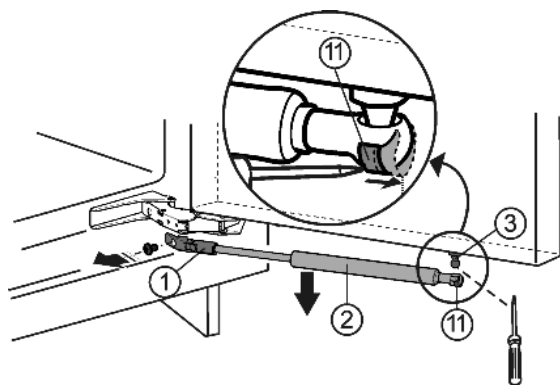

Fig. 3
- ▶ Push tension spring Fig. 3 (11) outwards, using a screwdriver.
- ▶ Lower soft stop mechanism Fig. 3 (2) for removal.
- ▶ Unscrew holder Fig. 3 (1).
- ▶ Unscrew the ball stud Fig. 3 (3) (Torx® 20).